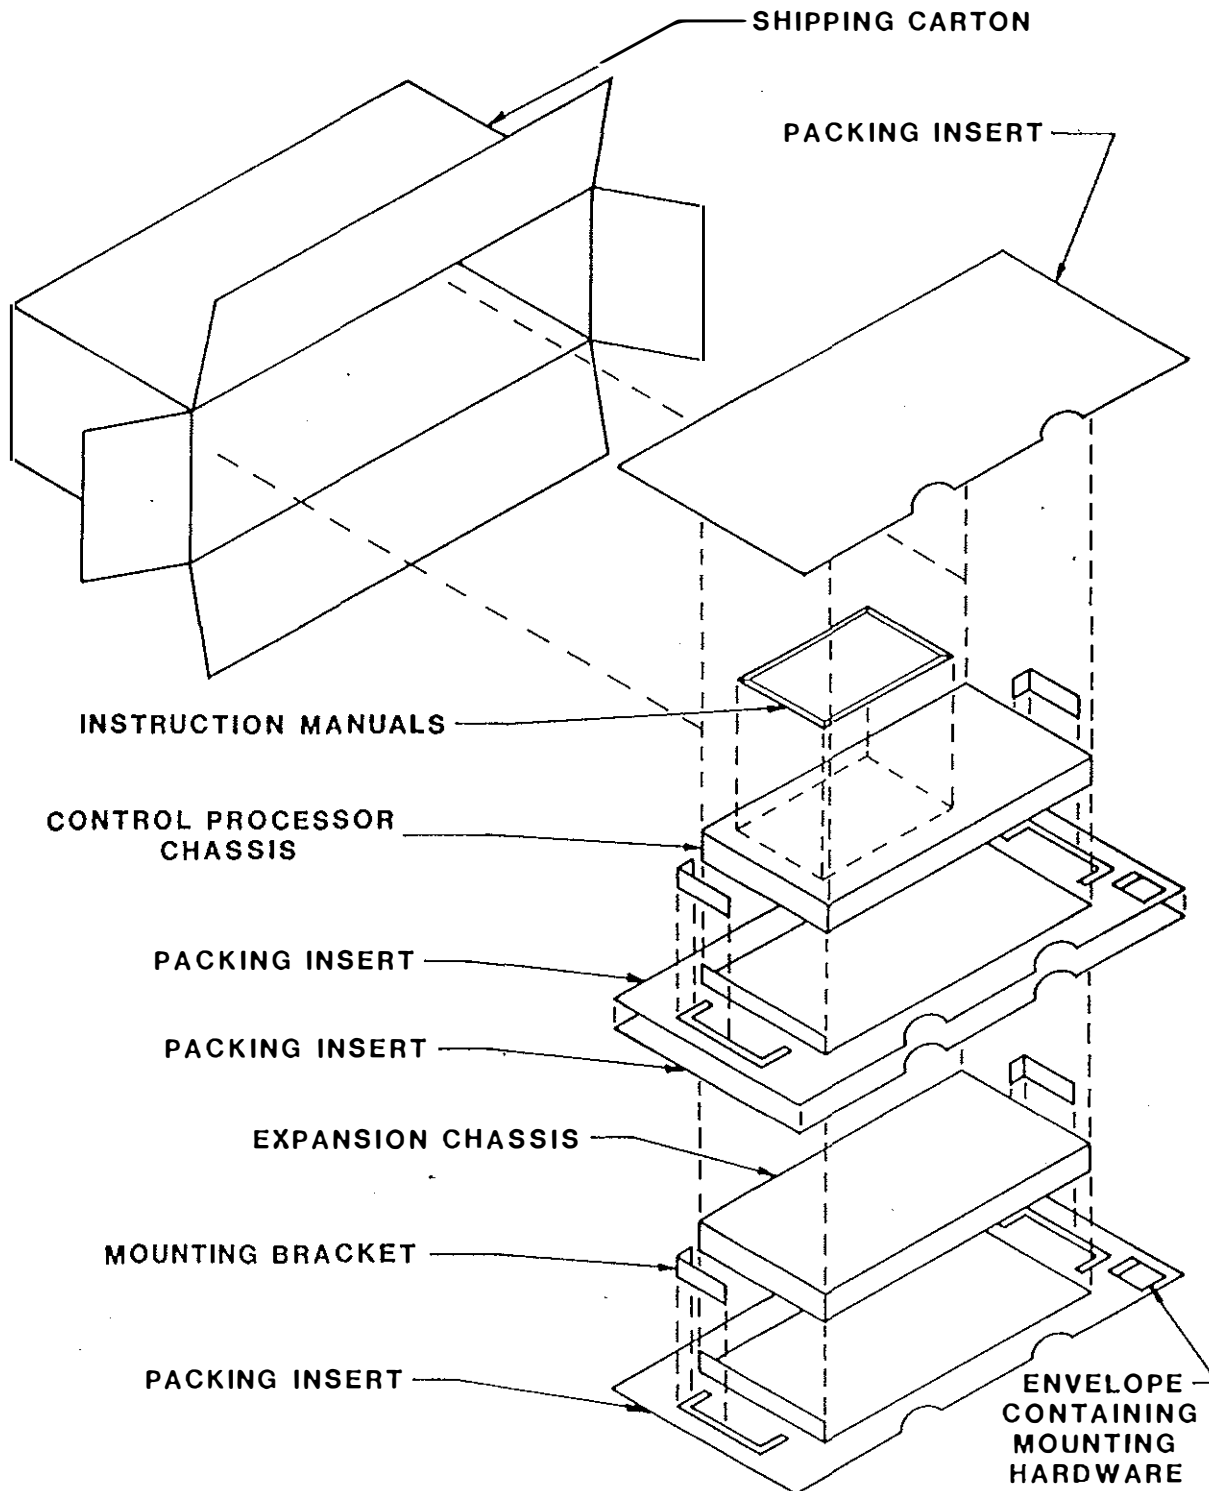

Fig. 3 - Digital Announcer Packing
3.01 The Announcer should be inspected immediately upon receipt to determine any shipping damage or missing parts. Report any damage to the shipping carrier. Missing pieces should be reported to the distributor or the factory. Figure 3 illustrates packing.